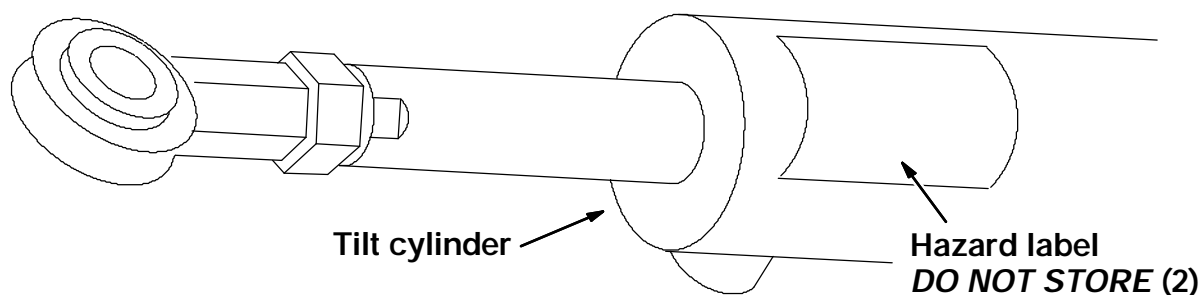

FIG. 1 - Cylinder Hazard Label Location
(Refer to Fig. 1)
2. Locate the temporary hazard label on the cylinder stop assembly. Peel this label off the channel. Use isopropyl alcohol to clean any adhesive or grime that might be on the channel. Install one of the **DO NOT STORE** hazard labels (2) in the same location.
3. Use isopropyl alcohol to clean the barrel of both new hopper tilt cylinders (3). Install one **DO NOT STORE** hazard label (2) on each cylinder so it can be read from that side of the machine. (Refer to Fig. 1)
4. Locate the two **HOPPER MAY FALL** labels on the machine frame near the rear wheels. Use isopropyl alcohol to clean any adhesive or grime that might be on the frame in that area. Install one of the new **HOPPER MAY FALL** labels (1) over each of the old labels.